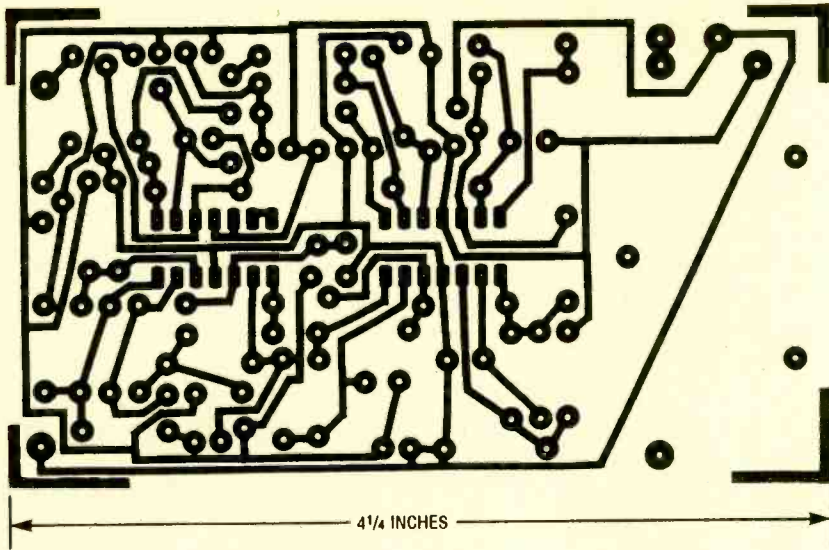

Fig. 2. Here's an actual-size foil pattern for Hot Canaries' printed-circuit board.
The strobe, busy, and acknowledge signals are the most important handshaking signals. To help explain how they are related and control data flow, take a look at Fig. 2. There the eight data lines are shown lumped together at the top as a single band. Don't let that throw you, the value of the individual bits is not important. What is important is the time at which data undergoes transitions (represented by the crossed lines) and the time it remains constant (the bands).
Fig. 2. Once a computer sets up the data on the parallel-data lines, it signals the peripheral with a low-going strobe pulse. The peripheral responds by sending the busy line high until it's ready for more, and/or it waits until its finished with the data and sends a low-going acknowledge pulse.
Fig. 3. These are the pin assignments for a Centronics-compatible peripheral. The functions are the same as those found on the DB-25 connector shown in Fig. 2, but there are a few more grounds and two 5-volt supply pins.
**Construction.** The Hot Canaries circuit was built on a printed-circuit board measuring 4 1/4 x 2 1/2 inches. A foil pattern for the printed-circuit board is shown in Fig. 2. Once you've etched and drilled your board, and gathered the parts listed in the Parts List, construction can begin. Start by installing IC sockets at the locations indicated in the parts-placement diagram (Fig. 3). It is suggested that you install the passive components (resistors and capacitors) first, beginning with the resistors and then the capacitors. Be sure to observe the proper orientation for the electrolytic capacitors.